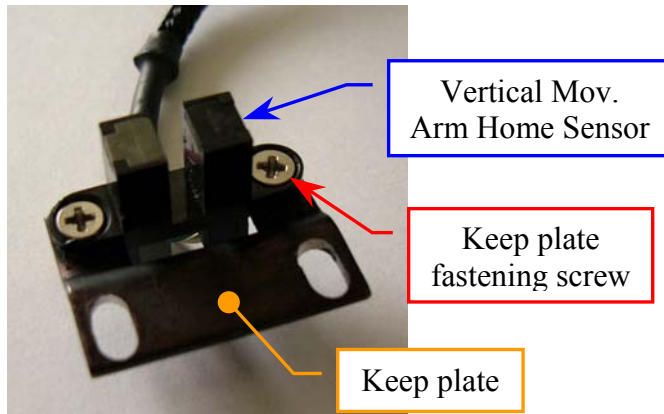

Fig. 28 – Keep plate fastening screws of the Vertical Mov. Arm Home Sensor
6. Unscrew the two keep plate fastening screws of the Vertical Mov. Arm Home Sensor (**Fig. 28**) and take out the sensor from the keep plate.
7. Position the keep plate below the Vertical Mov. Arm Home Sensor as showed in the **Fig. 28**, center the sensor with respect to the keep plate and screw its two fastening screws.